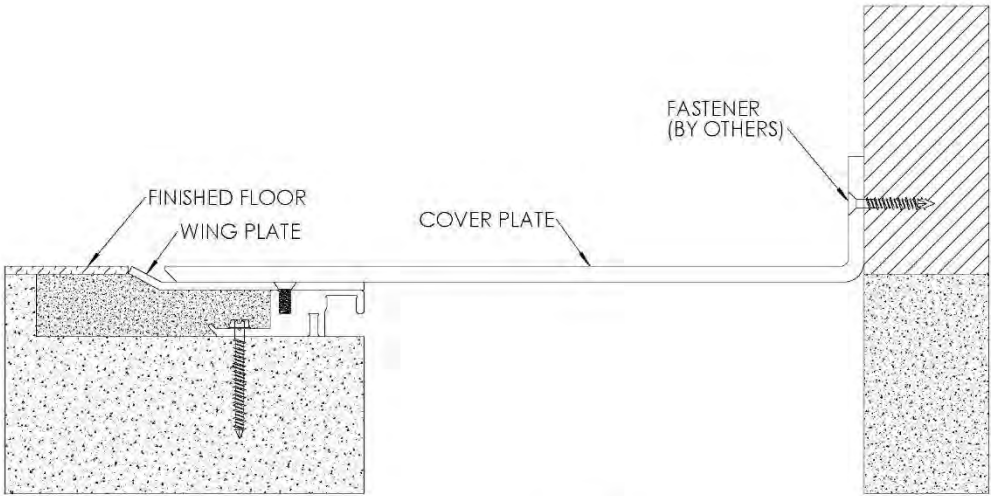

FIGURE 6
6. Position cover plate against wall as shown, making sure the top of its horizontal face is level when set on the wing plate. Attach plate to wall using appropriate 3/16" fasteners for the wall type, 18" o.c. *Note: Wall fasteners are not provided. See Figure 6*